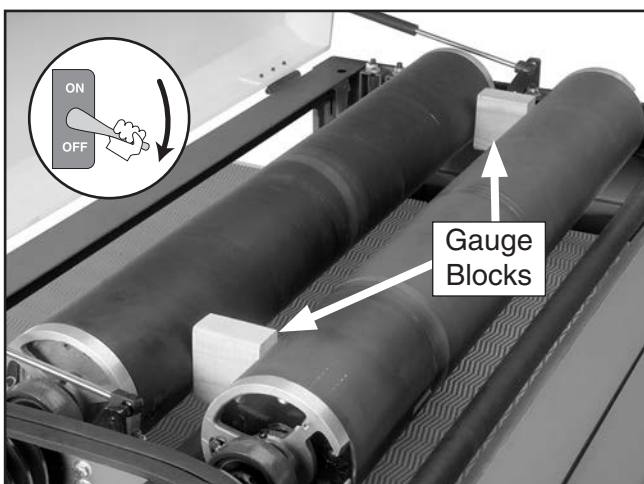

Figure 57. Example of small gauge block positioned between front and rear drums.
10. Place the small gauge blocks on each end of the pressure roller between both drums as shown in **Figure 57**.